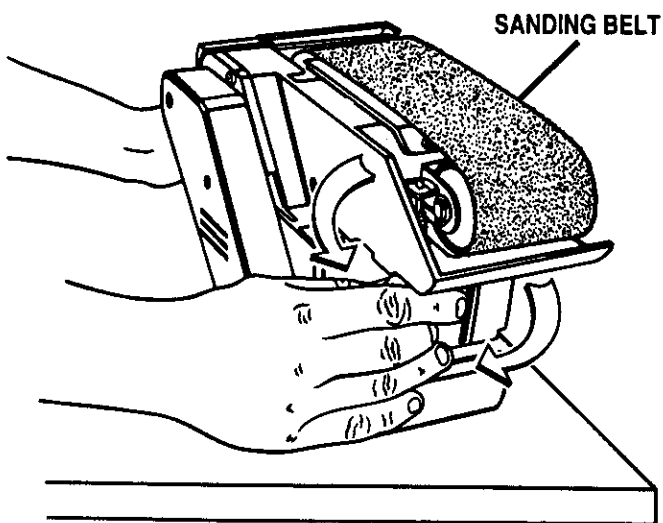

Fig. 6
- With sander positioned as shown in figure 6, pull switch trigger and release immediately.